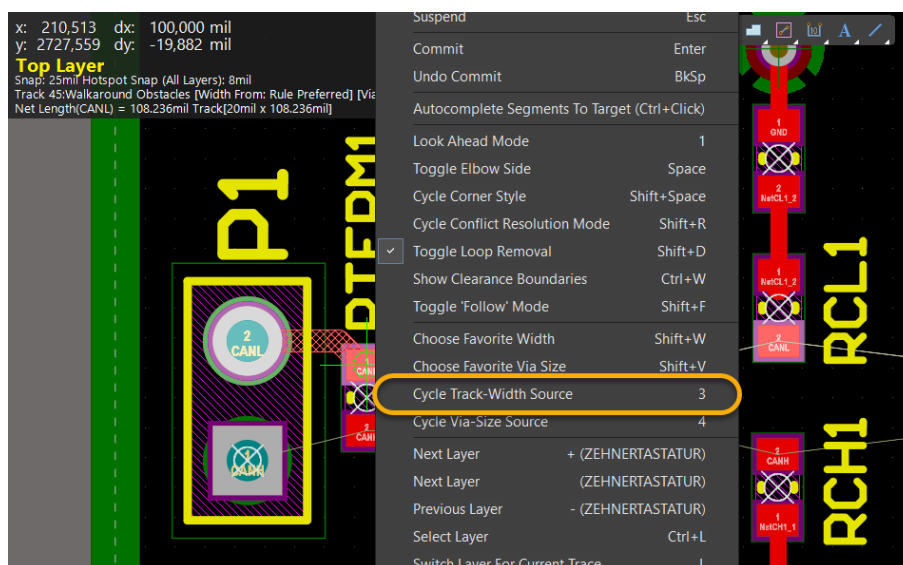

Figure 6. Next available option or shortcut from the Tilde menu
- Hit the **~ tilde** key (US) or **Shift+F1** for other regions, to access all of the available shortcuts and commands while in this mode. Notice that 3 is the hotkey to cycle track-width source of this route as shown in Figure 6.